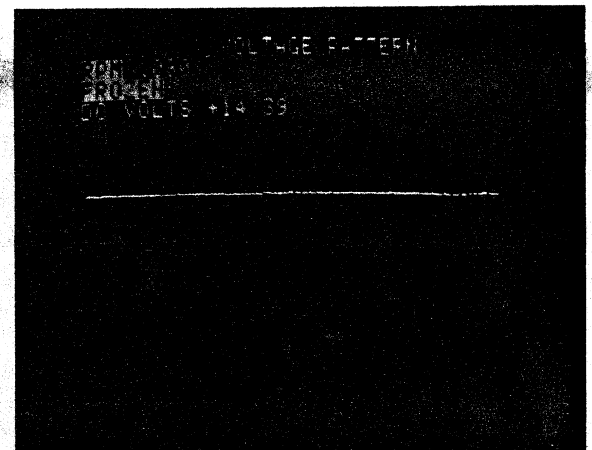

Fig. 9-3
Diode trio good - Voltage reading within one (1) volt of reading from at the alternator output terminal, and waveform appears similar to that in Fig. 9-3.